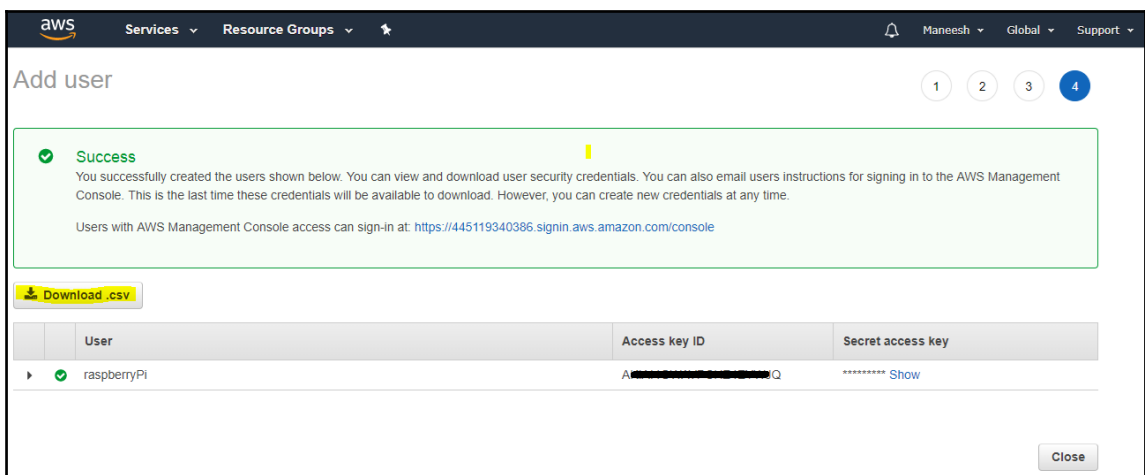

Figure 7.15
- In the next step, click on **See the preview** for both S3 and Rekognition and click on **Create user**. Once a user with a defined set of permissions is created successfully, it will provide the credentials in a .CSV file, which can be downloaded as shown in Figure 7.15: